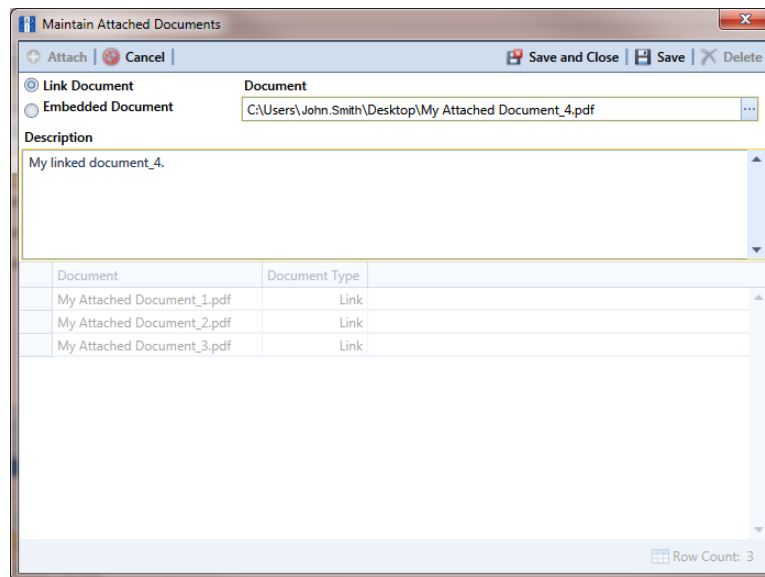

Figure 4-26. Maintain Attached Documents
- 6 When the *Maintain Attached Documents* dialog box opens, click  **Attach** and then select one of the following options (Figure 4-26, page 150):
- 7 If you selected *Link Document* in step 6 and want to link to a file on a local computer or company network, follow these steps (Figure 4-26):